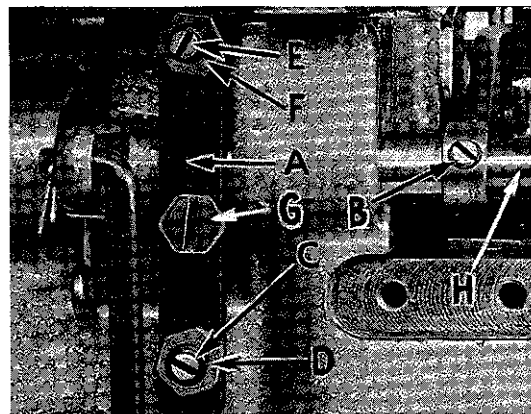

Fig. 16
The foot lifter lever arm (A, Fig. 16) and the collar (B) secure the shaft. Be sure the presser arm does not bind and rise when presser foot release bushing is unlocked.
Assemble the presser foot to presser arm. With needle in high position, swing presser arm into sewing position and set the presser foot to align needle holes (front and back) and flat on throat plate. The front edge of needle hole in presser foot must be aligned with front edge of needle hole in throat plate. It is also important that the bottom of the presser foot be flat on the throat plate. If necessary, presser foot can be realigned with throat plate slots by shifting the foot lifter lever shaft (H, Fig. 16). To move the shaft, loosen collar screws (B, Fig. 16) and clamp